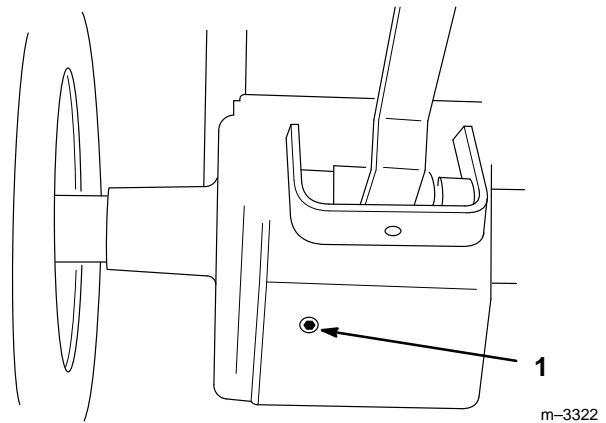

Figure 43
- Place a pan below the transaxle drain. Open the drain by removing the plug (Fig. 43).